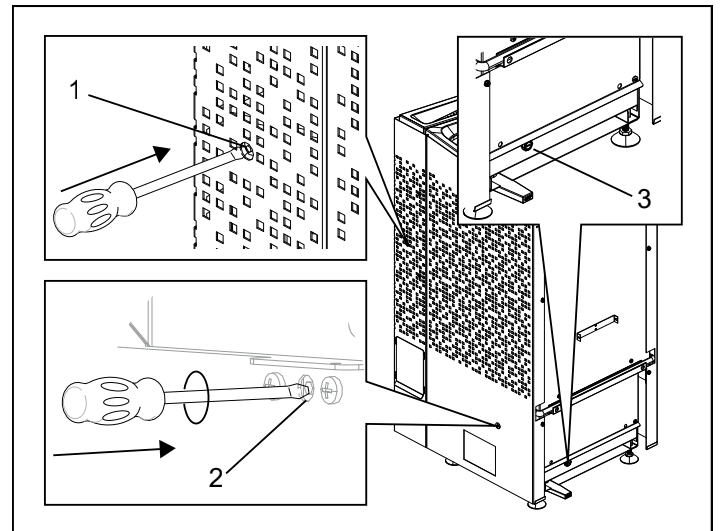

Figure 9: Resetting the temperature cut-out
• **Water reservoir** - The temperature cut-out in the reservoir is designed to protect the heater element from boiling dry. On the left side, seen from front, there is a hole, use a slim object to reset the cut-out, see 1 Figure 9. If the cut-out has activated, the button will feel stiff and will 'click' when reset. If the cut-out has not activated and after resetting, the button will feel springy.
• **Heater** - The temperature cut-out in the heater is there to protect the components, pipe elements and woodwork in the sauna from overheating. On the left side, seen from front, there is a hole, use a slim object to reset the cut-out, see 2 Figure 9. If the cut-out has activated, the button will feel stiff and will 'click' when reset. If the cut-out has not activated and after resetting, the button will feel springy.